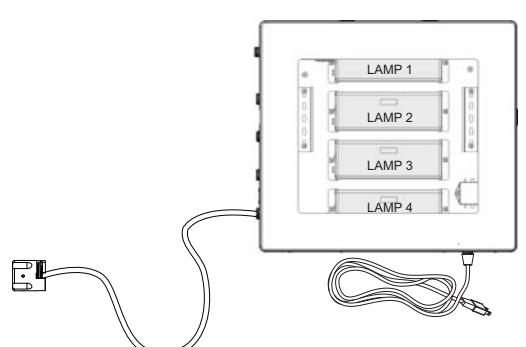

Figure 3 Drip Loop
- The enclosure should be mounted either above or beside the reactor chamber. Never mount vertically with AC connector at top of controller to prevent moisture from running down cordage and causing a potential fire hazard. Drip loops in all cordage connected to controller is highly recommended. Refer to Figure 3.
- Mount the Hi-Flo enclosure to the wall, near the reactor chamber. Ideally place the enclosure above the reactor and away from any water connection point, to prevent any water from potentially leaking onto the enclosure by means of a leak at a connection point or a "sweating" system. Make sure you allow for a "drip-loop" Figure 3 on the lamp, sensor and power cord, again, to prevent any water from potentially entering the enclosure. Affix the green ground wires to the grounding lug at the end of the reactor vessel and securely fasten with the lugnut provided Figure 4.